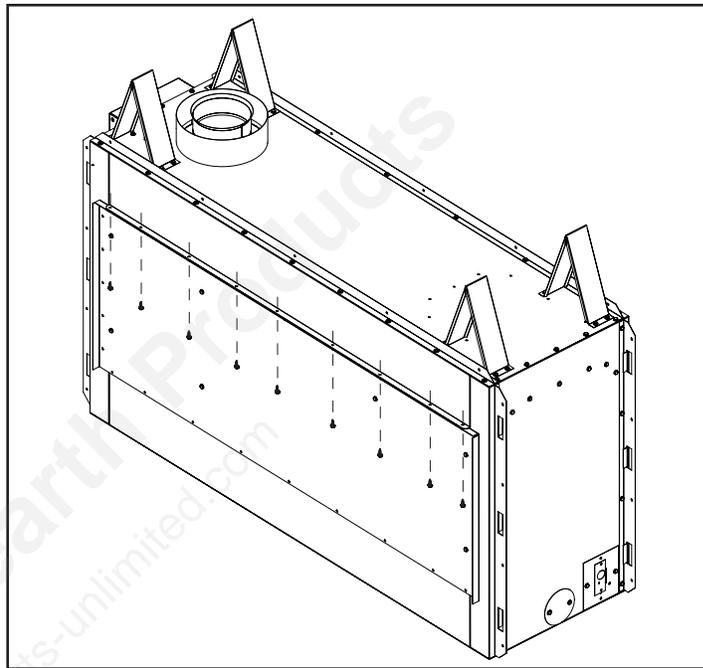

Figure 35 - Removing Rear Panel for See-Thru Applications
1. In the rear of the fireplace, locate screws at top of rear panel and remove as shown in Figure 35. Discard screws and rear panel.